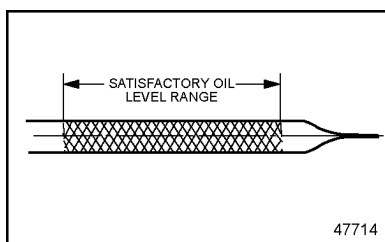

Figure 33 Check Oil Level
7. Add oil as required to bring the level within the *satisfactory* range on the dipstick. See Figure 33.
minutes). Add oil as required to bring the level within the *satisfactory* range on the dipstick. See Figure 33.